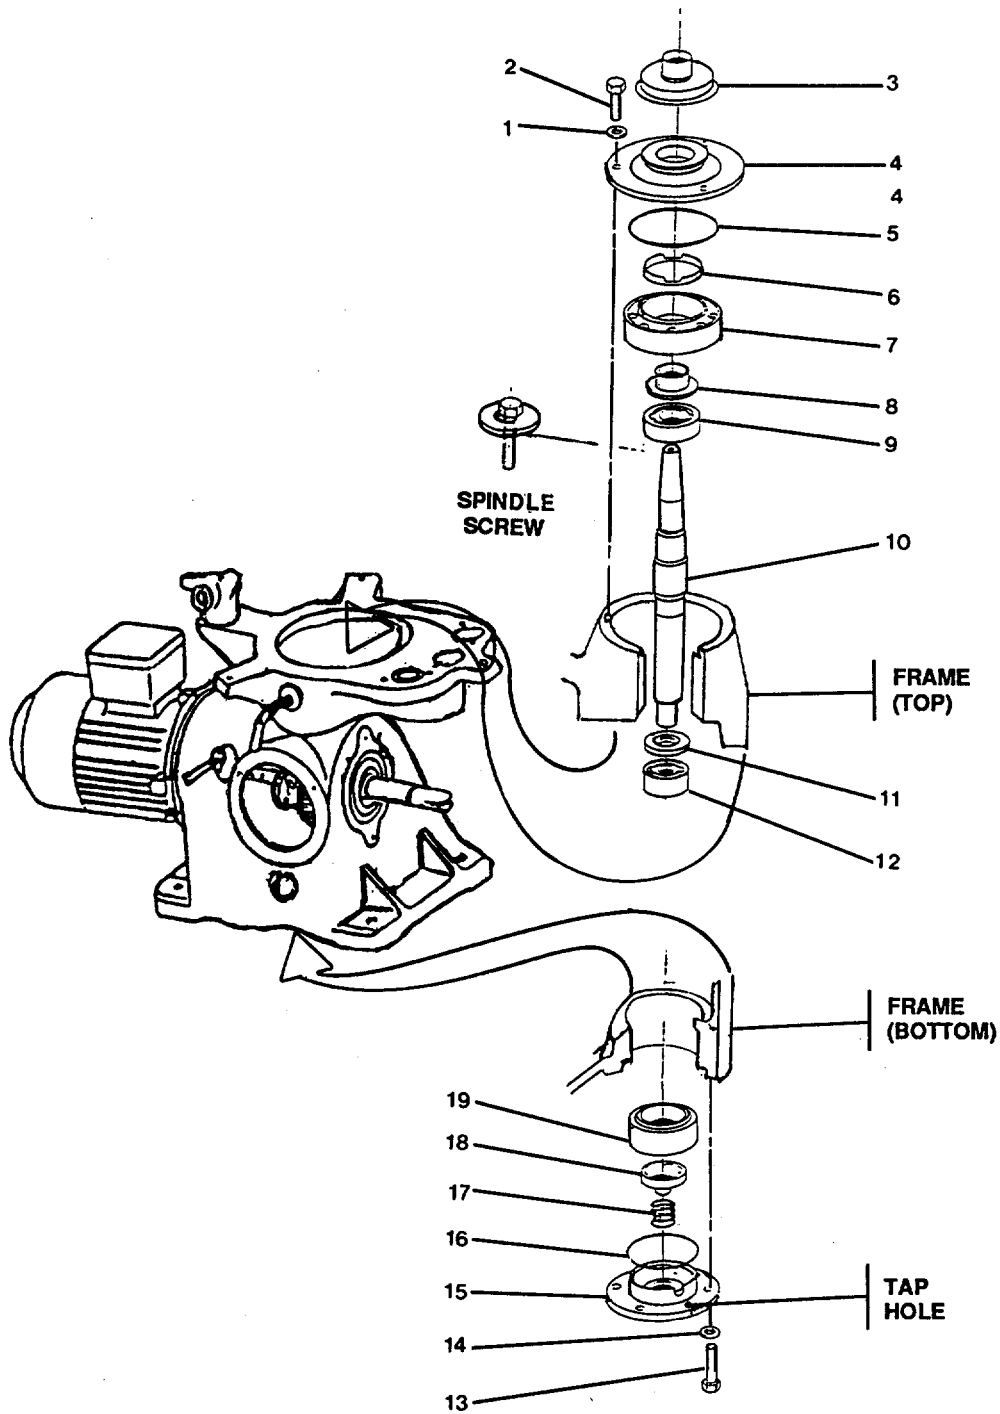

FIGURE 4-3. Vertical Gear Assembly.
- d. Install lock ring (7) on threads of bowl bottom by hand in counterclockwise direction then tighten it with annular wrench. (Left hand thread). Tap against the wrench handle until the "O" marks on lock ring and bowl top (8) are aligned. Do not slip a pipe over wrench handle to obtain leverage.
- e. Install gasket (4) and regulating ring (5) on bowl top.
- f. Install lock ring (6) on threads of bowl top by hand in counterclockwise direction then tighten it with hook wrench. (Left hand thread). Tap against wrench handle until a slight resistance is felt. Do not over tighten lock ring.
- g. Loosen bowl lock screws (2) until bowl assembly can be turned by hand.
- h. Set brake by turning handle (1) counterclockwise.
**4-14. Repair Vertical Gear Assembly. (Figure 4-3)**